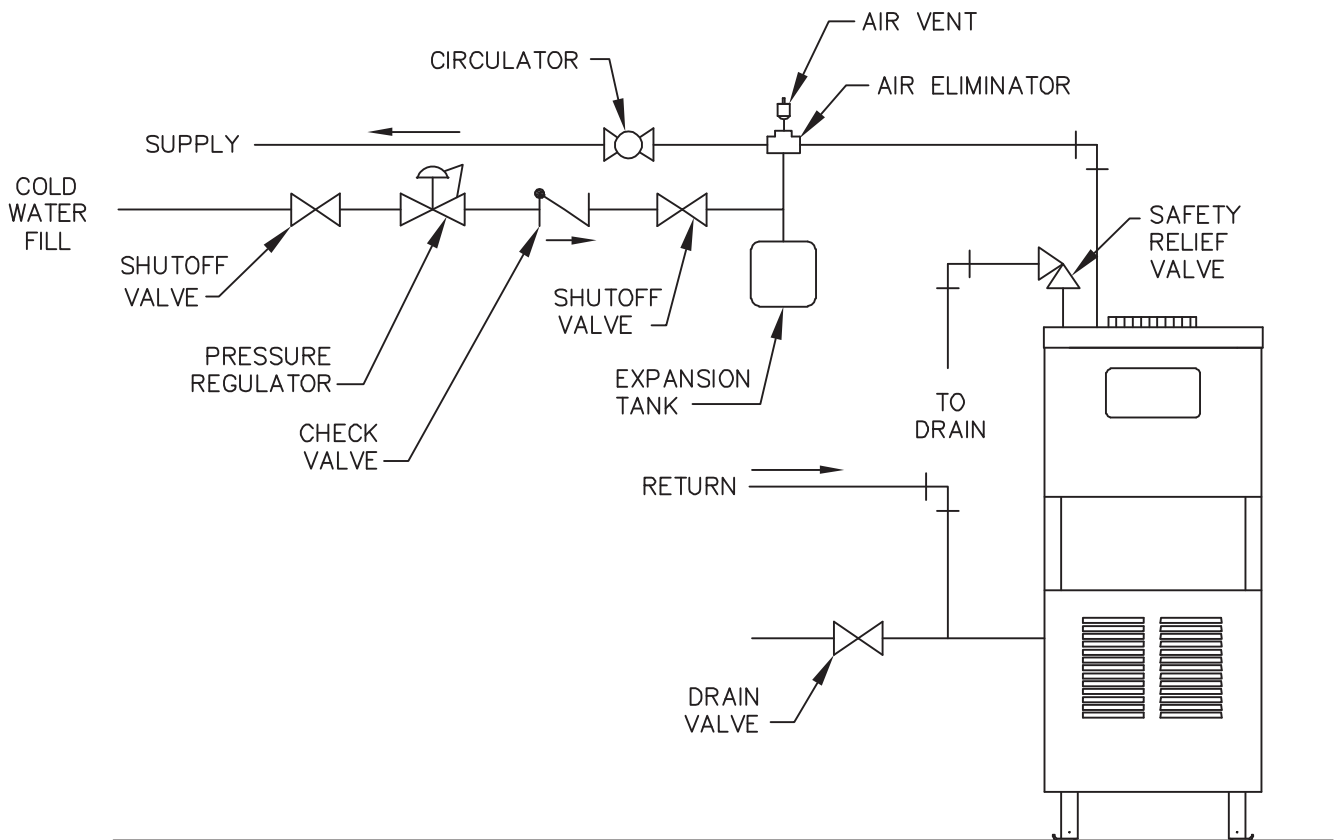

Figure 3.1: Supply and Return Piping
1. Size the supply and return to suit the system. A typical piping arrangement is shown in Figure 3.1. Refer also to the I=B=R Guide - Residential Hydronic Heating Installation/Design.
Pipe the drain valve to a tee, provided, and the 1-1/4 NPT return tapping near the bottom of the left section. Pipe the return to the tee. Pipe the drain valve nipples and tee to the 1-1/4 NPT return tapping as shown in Figure 3.1.
2. Expansion tanks are available with built-in fill valves and check valves for reducing supply water pressure and maintaining minimum system pressure. Check the design features of the tank and provide valves as necessary. Refer back to Figure 3.1 for typical expansion tank piping.